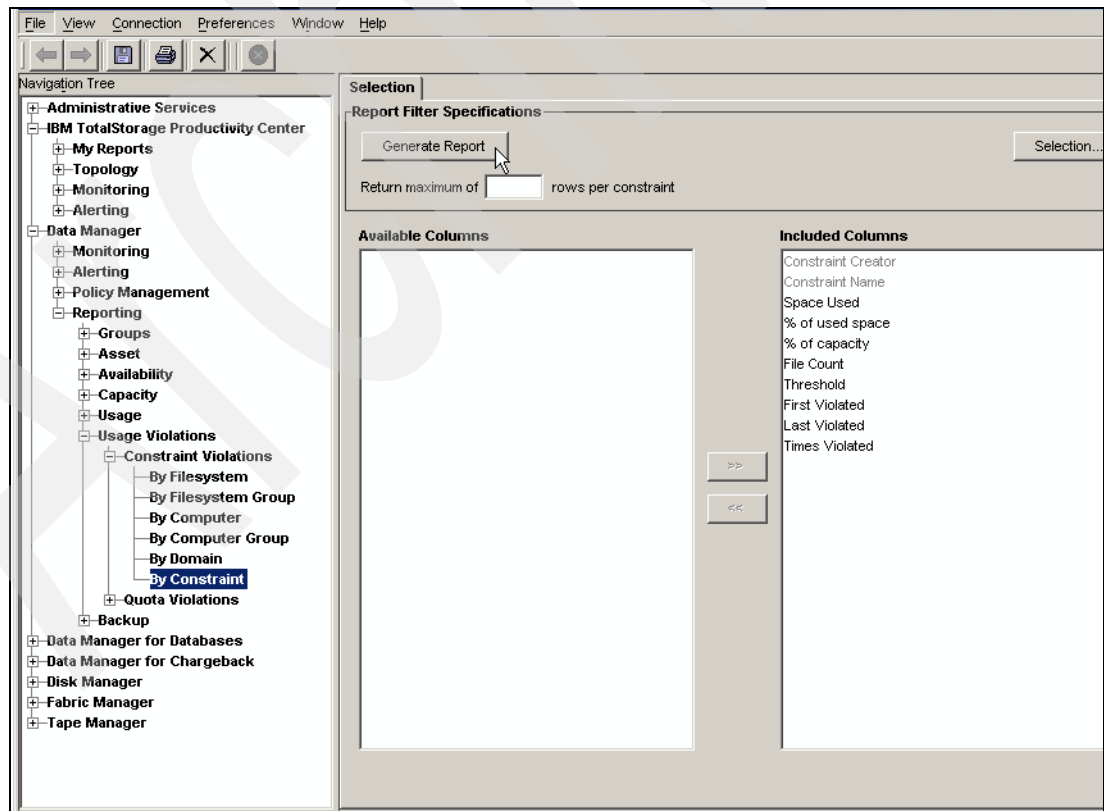

Figure 2-44 Choose constraint report
1. Choose the constraint report type and click **Generate Report** as in Figure 2-44.